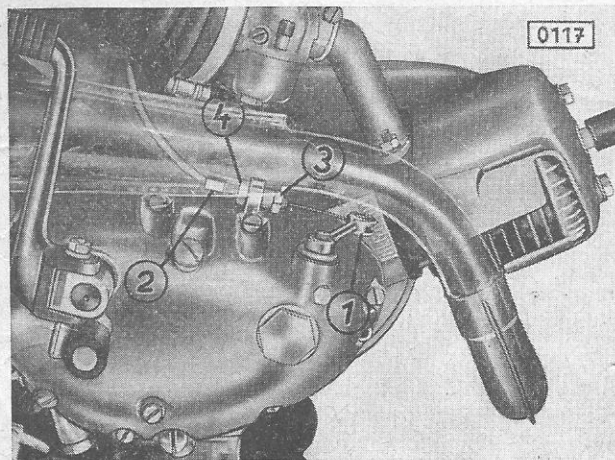

Fig. 17: Clutch adjustment:
When measured at outer end, the clutch release lever (Fig. 17/1) on the crankcase cover should have a free play of 2 to 3 mm.
1. Hold adjusting steere screw (Fig. 17/2) at crankcase cover eye.
2a. Slacken front counter nut by some turns (Fig. 17/3).
3a. Turn rear counter nut (Fig. 17/4) in the same sense until play is correct.
2b. Slacken rear counter nut (Fig. 17/4) by some turns.
3b. Turn front counter nut (Fig. 17/3) in the same sense until play is correct.